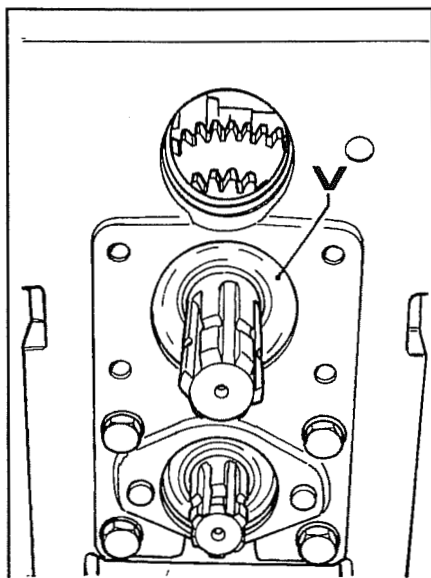

Fig. 16
6. Remove oil seal **V** Fig. 16 and the snap ring below it from the rear of the casing.